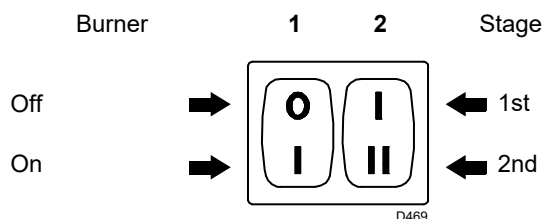
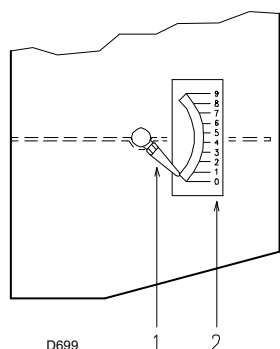
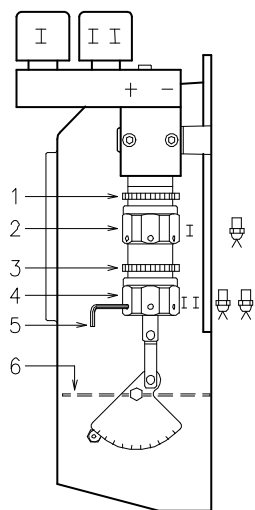

Fig. 19
Fig. 20
Fig. 21
- Start the burner by closing the control devices and with switch 1)(Fig. 19 pag. 20) in the "ON" position. The pump must rotate in the direction of the arrow marked on the cover.
- The pump can be considered to be primed when the light oil starts coming out of the screw 3). Stop the burner: switch 1) (Fig. 19 pag. 20) set to "OFF" and tighten the screw 3).
Set switch 1) (Fig. 19) to "ON".
Keep the burner operating at 1st stage by setting the switch 2) (Fig. 19) to the 1st stage position. Opening of the air gate valve 6) (Fig. 21) must be adjusted in proportion to the selected nozzle: the index 1) (Fig. 20) must be aligned with the notch 2) (Fig. 20) specified in table (Tab. D) This adjustment is achieved by turning the hex element 2) (Fig. 21):
2.3 notch (Fig. 20) aligned with index 1).
When the adjustment is terminated lock the hex element 2) (Fig. 21) with the ring nut 1).
N° = Notch 2) (Fig. 20)
Set switch 2) (Fig. 19 pag. 20) to the 2nd stage position and adjust the air gate valve 6)(Fig. 21) by turning the hex element 4)(Fig. 21), after having loosened the ring nut 3)(Fig. 21).
in order to facilitate adjustment of hex elements 2) and 4)(Fig. 21), use a 3 mm Allen key 5) (Fig. 21).